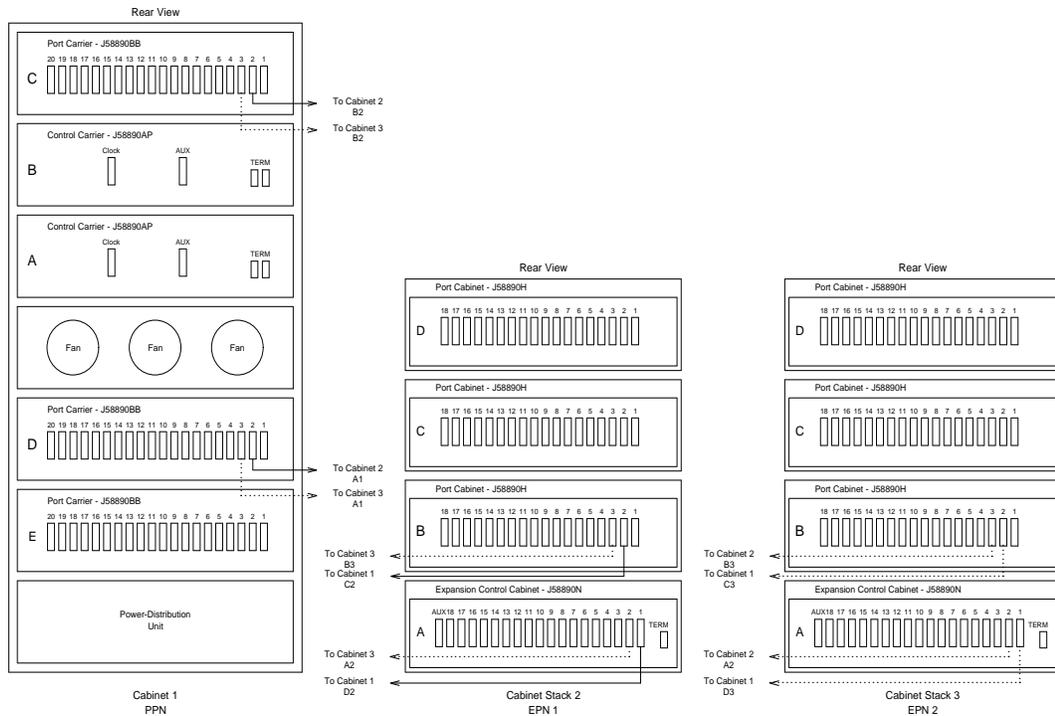
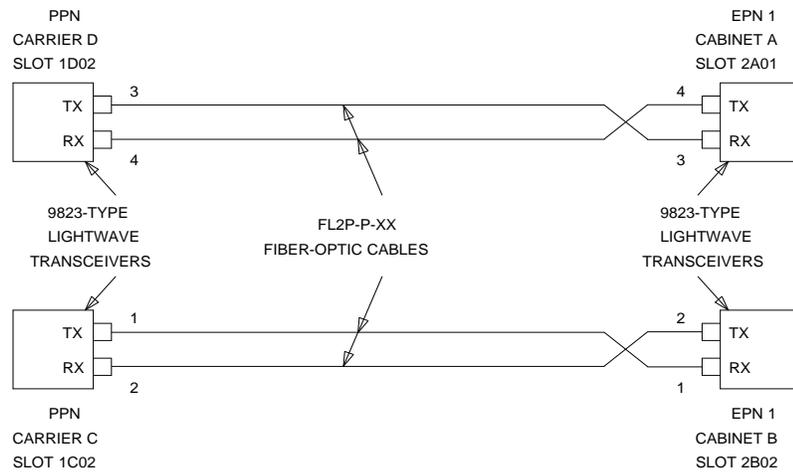
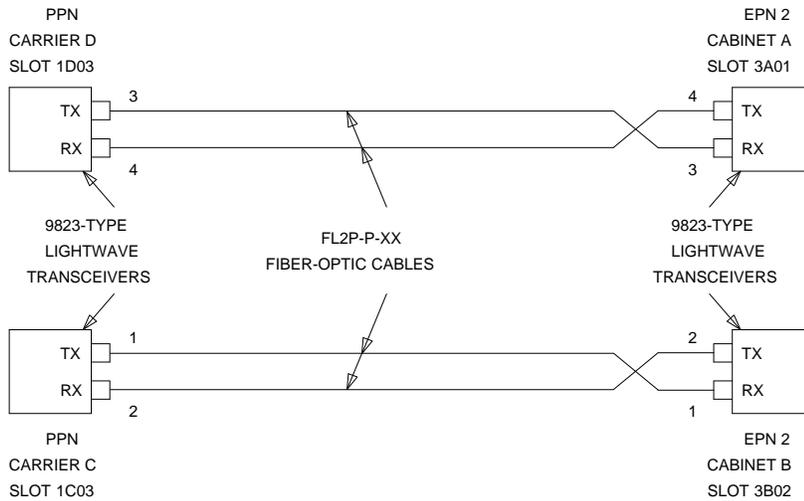
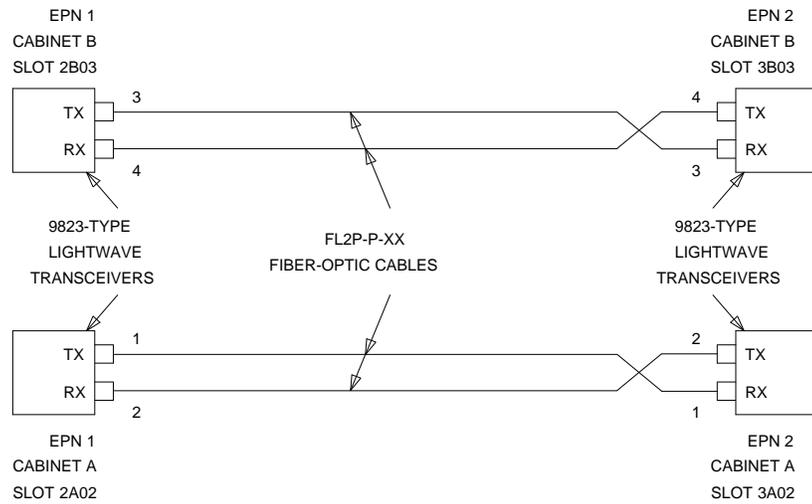

Figure 3-27. Critical-Reliability DEFINITY ECS R5r with Two or Three Port Networks
Figure 3-28. Fiber-Optic Connections PPN to EPN1
Figure 3-29. Fiber-Optic Connections PPN to EPN2
Figure 3-30. Fiber-Optic Connections EPN1 to EPN2
The connectors on the lightwave transceivers are labeled either “TX” (transmit) or “RX” (receive), while the fibers attached to each connector are numbered either “1” or “2.” A viable fiber connection is only made when both fibers in each cable (that is, “1” and “2”) route from the “TX” connector of a port network to the “RX” connector of its adjacent port network. For an example, refer to Figure 3-28.
1. Behind port carrier C of the multicarrier PPN (see Figure 3-27, Figure 3-28, Figure 3-29, and Figure 3-30):